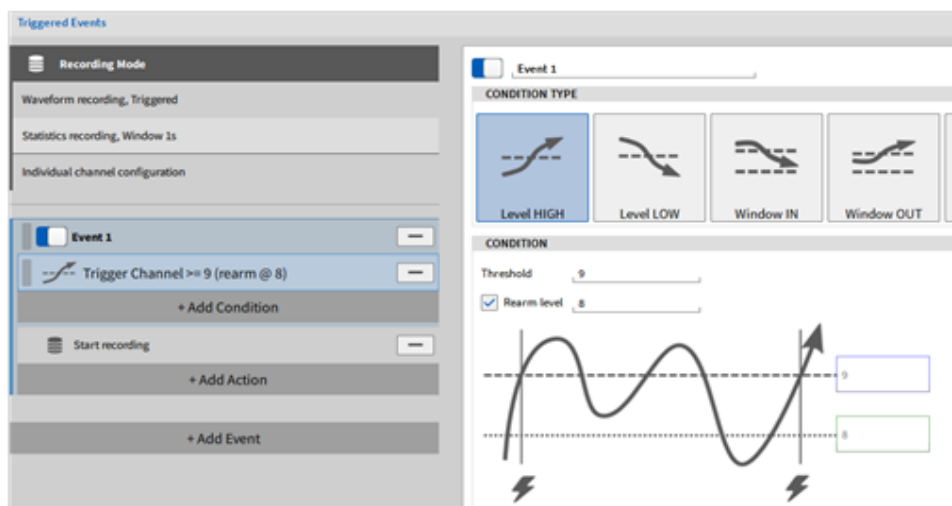
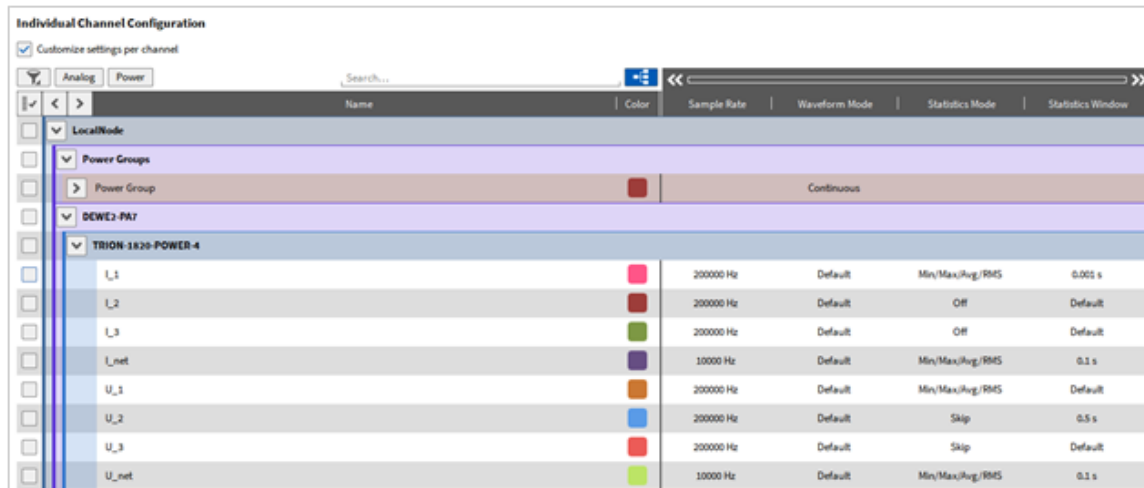

Fig. 9.49: Example: Trigger Event Settings
Fig. 9.50: Example: Individual Channel Configuration Settings
Fig. 9.49 and Fig. 9.50 both show the settings, which were made. This example shows how to continuously store the power parameters but only store the raw data in case of an event. For the raw data also different sample rates are set (refer to *Channel-wise Sample Rate Selector*) and different settings for the statistics data.
2. The other channels of the TRION-1820-POWER-4 card are set to the *Waveform Mode Default*. This means, that the trigger event settings are considered here. By looking at Fig. 9.49 it can be seen, that the recording will be started whenever the *Trigger Channel* rises above the defined threshold of 9 V. At this point the raw data channels are also recorded and stored with a sample rate of 200 kHz, or 10 kHz for channel *I\_net* and *U\_net*.